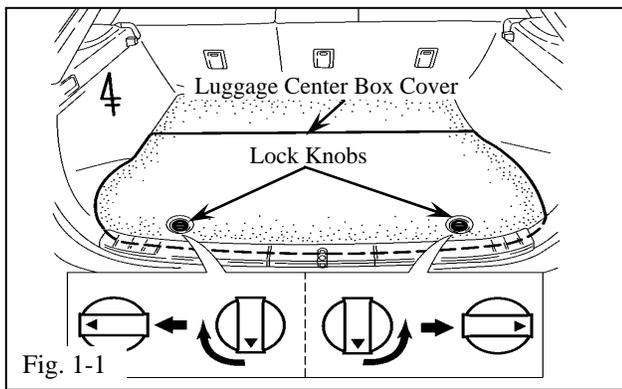

Fig. 1-1
- (a) Remove the luggage center box cover (rear floor board no. 2) as follows: (Fig. 1-1)
- (1) Before starting, cover the rear trunk edge and bumper with a blanket.
- (2) Rotate the lock knobs to the unlock position.